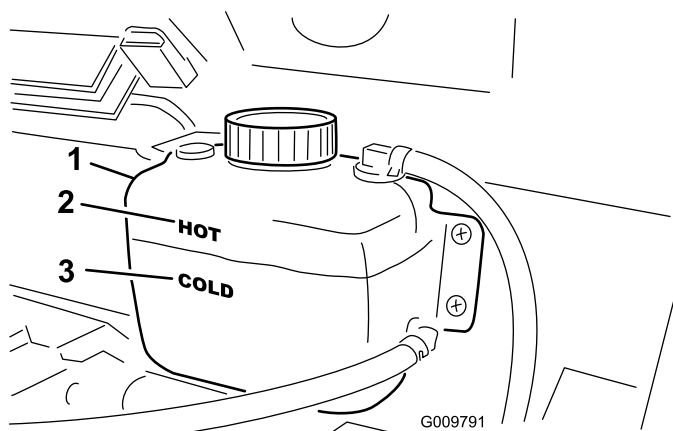

Figure 19
2. Check the coolant level on the side of the reserve tank (Figure 19). The coolant should be up to the Cold line, when engine is cold.